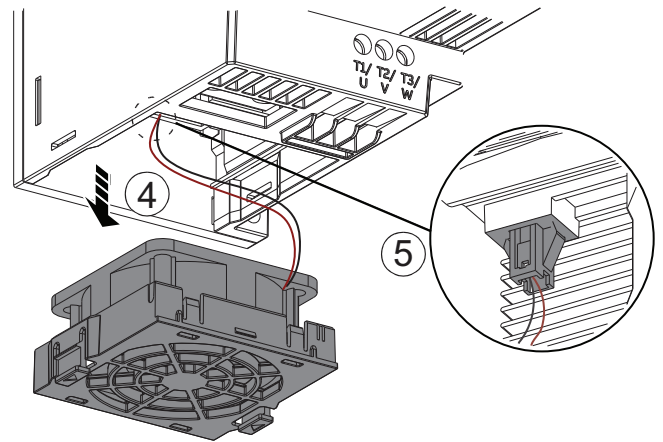

Fig. 13 — Disconnecting the Fan
4. Disconnect the fan power cable. (See Fig. 13.)